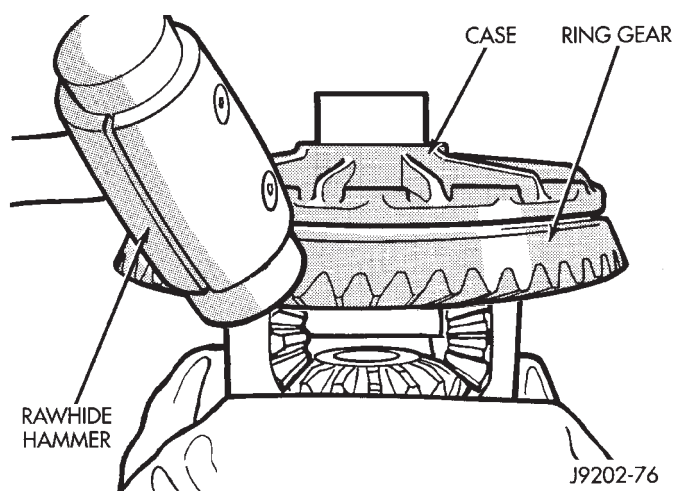

Fig. 34 Ring Gear Removal
- (1) Remove differential from axle housing.
- (2) Place differential case in a suitable vise with soft metal jaw protectors. (Fig. 34)
(3) Remove bolts holding ring gear to differential case.
(4) Using a soft hammer, drive ring gear from differential case (Fig. 34).